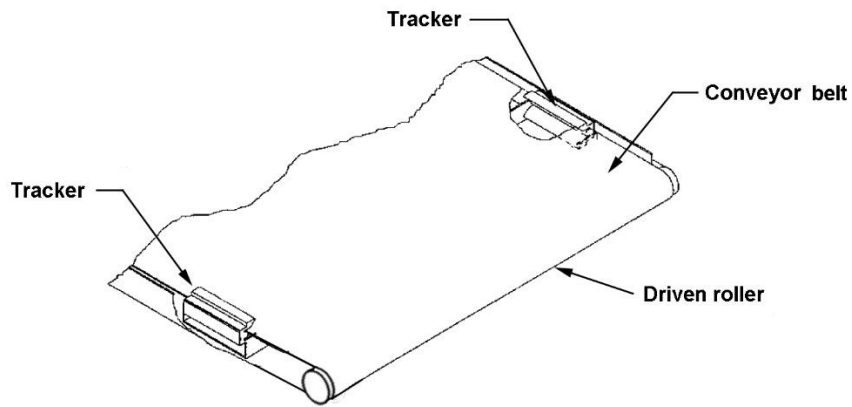

Figure 22 – Underside of conveyor shown
6. The tracker is positioned on underside of conveyor bed near driven roller (Figure 22). The back of tracker is magnetized and will stick to side wall of conveyor bed. Do not install tracker if edge of conveyor belt is damaged or torn.
9. Turn conveyor table right-side up and re-position it onto sander. Re-attach three (3) mounting screws and tighten. **Caution:** Be careful not to knock tracker(s) out of conveyor bed when turning conveyor over. Trackers may break if allowed to fall.